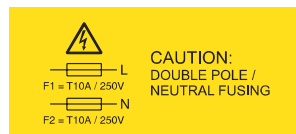

*Figure 3. Power supply cover caution label*
3. Verify that the power supply cover caution label is installed on the 2104 Model DS4 and Model TS4 power supply. See Figure 3.
**Do not remove cover, do not service, no serviceable parts. (2)**